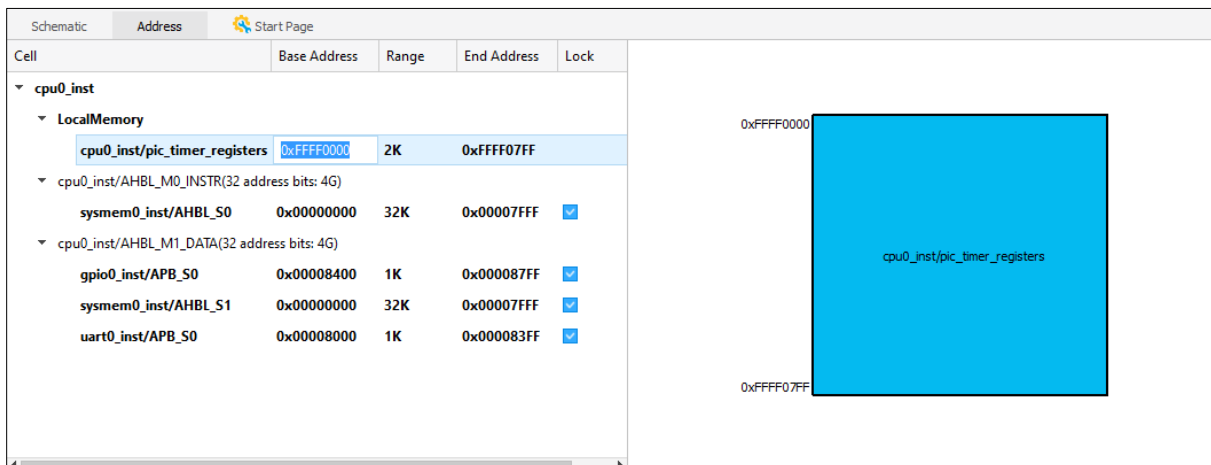

Figure 2.126. Edit Base Address
3. (Optional) Double-click the base address in Address view (Figure 2.126). Type the new value and press **Enter**.